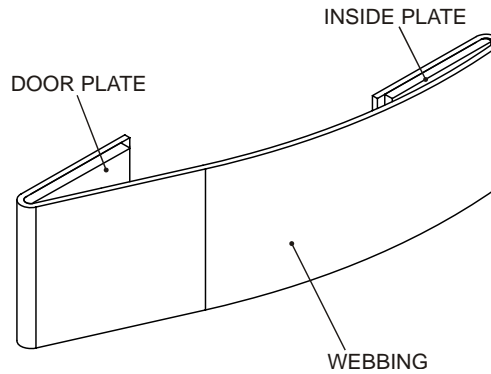

Figure 10 Door Stop Webbing
- 27.** Remove Door Stop Webbing (Figure 10):